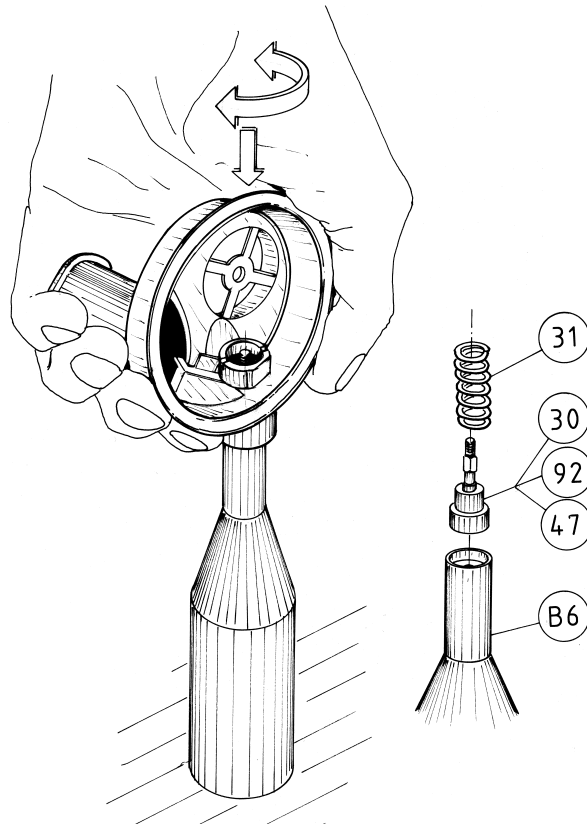

FIG. 1
3. Reassemble the poppet seat (47) on the poppet body (30).
4. Place the complete 2nd stage poppet assembly and its spring (31) on the special tool (B-6).
5. Exerting a slight pressure, correctly insert the 2nd stage poppet assembly and its spring into the inlet fitting of the 2nd stage case. (Fig. 1)